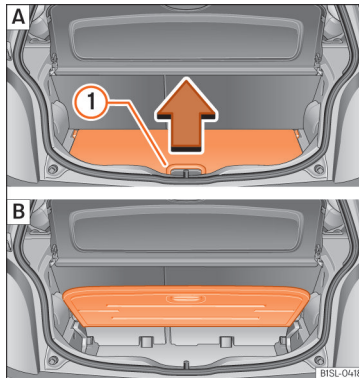

Fig. 137 A: open the boot variable floor. B: raised boot variable floor.
- To raise the floor, raise handle »» **Fig. 137 1** in the direction of the arrow and pull from the floor all the way up »» **Fig. 137 B**.